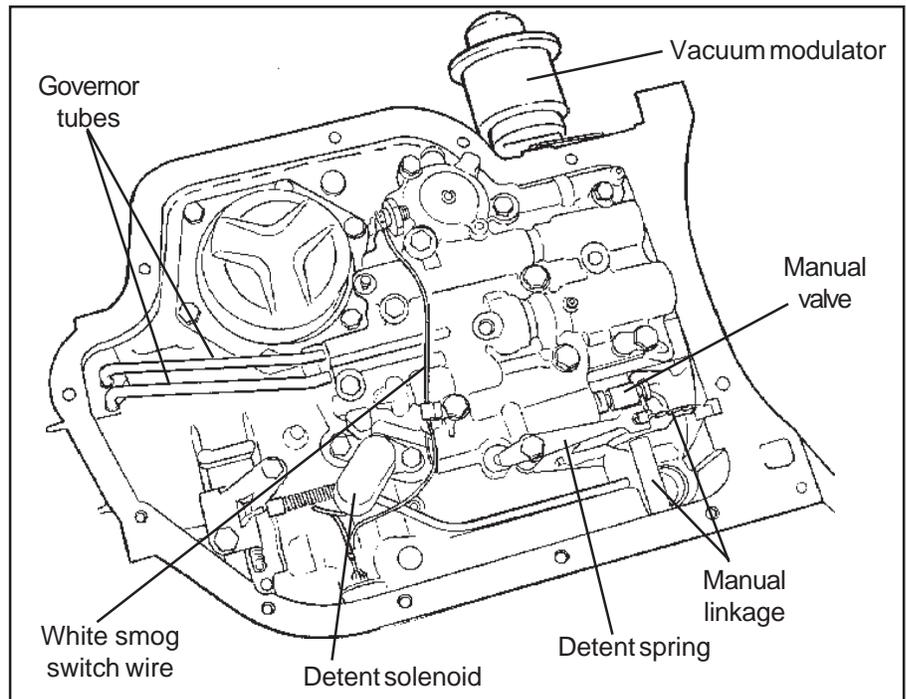

Figure 4
following (See Fig. 4) Manual linkage, detent spring with roller and the way the internal shift lever pin engages the manual valve in the valve body, governor tubes and their routing, detent solenoid (oval or square can) and its wire connector, white spark control switch wire and routing of the wire.
STEP 13. Install all the valve body bolts **finger tight**. Make sure the detent spring is in position and riding on the internal shift lever (**See fig. 4**). Make sure the manual valve is engaged with the internal shift lever pin. Tighten all valve body and solenoid bolts to 8-10 lb.ft. (11-13.6 Nm). Route the white spark control wire and connect to pressure switch on valve body. Check operation of manual valve by running range selector through all gear positions.